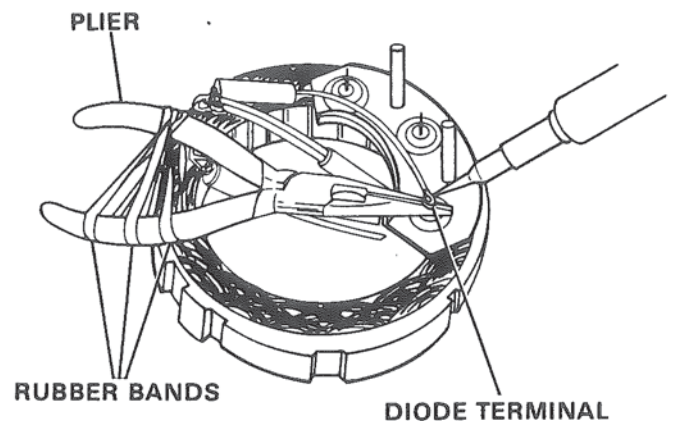

Figure 7. Unsoldering Rectifier Leads.
A. It is necessary to unsolder stator leads from rectifier terminals to properly test each rectifier. In order to protect rectifier from damage, use a pliers as a heat dam. Figure 7. When resoldering